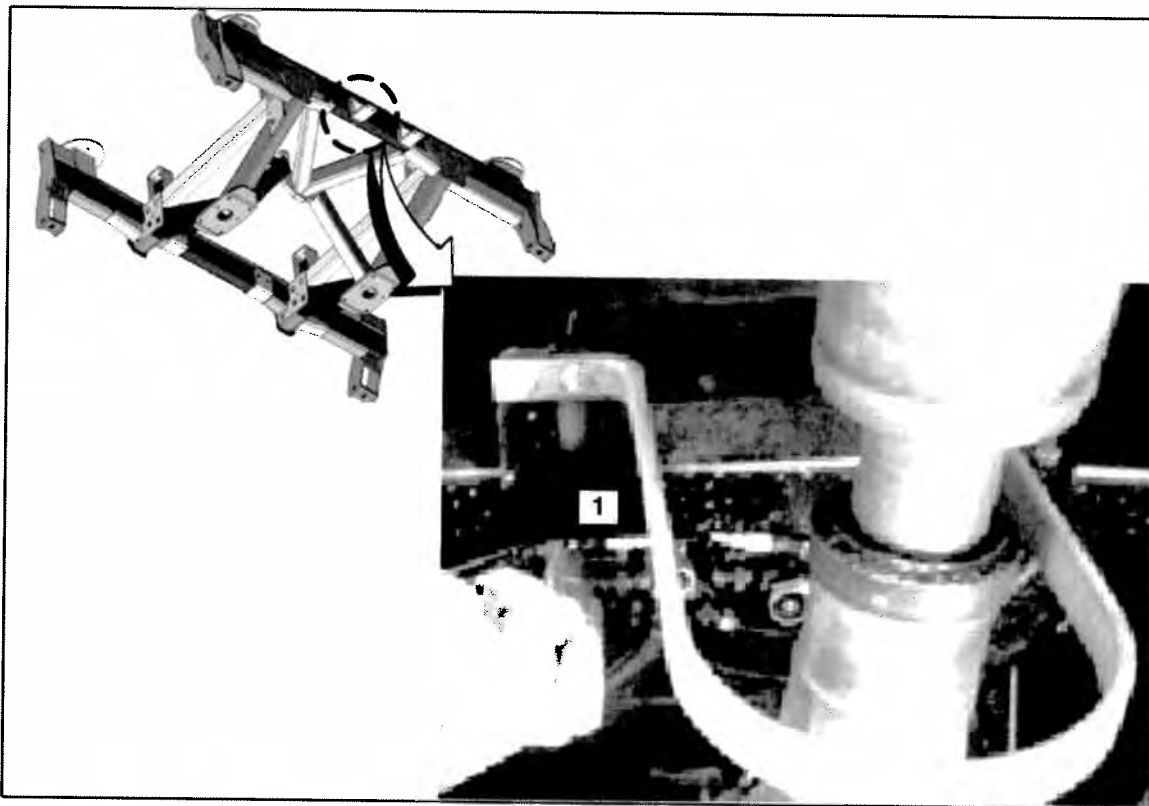

Figure 2. Rear of drive suspension support structure.
5. With the coach on a lift or over a pit, use a 0.250 inch drill bit to drill a hole in the bottom face of each of the cross tubes as shown in Figures 2 and 3.